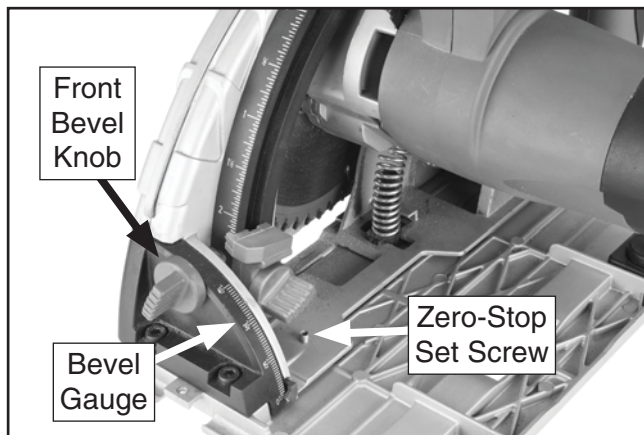

Figure 16. Angle-setting components.
1. Loosen the front and rear bevel gauge knobs (see **Figure 16**).